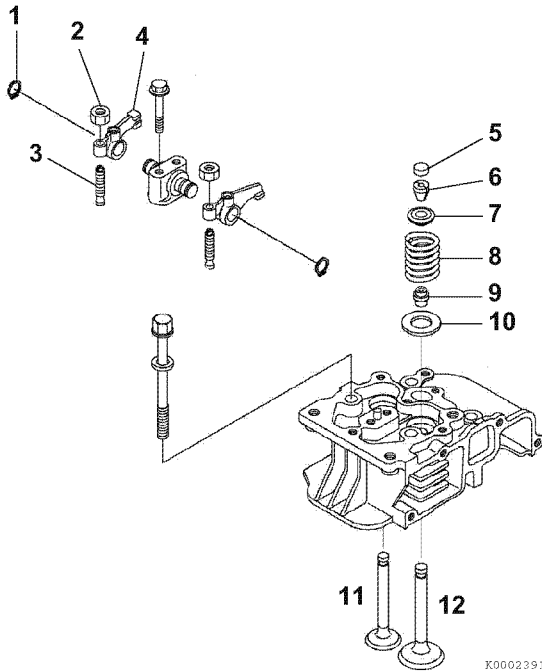

Figure 6-22
3. Place the valves (11, 12, **Figure 6-22**) in their proper locations in the cylinder head.
- Place the cylinder head on the workbench with the combustion side down. Install the washer (10, **Figure 6-22**), valve spring (8, **Figure 6-22**) and spring retainer (7, **Figure 6-22**).
- Insert the valve keepers (6, **Figure 6-22**) and slowly release the tension on the valve spring. Install the valve cap (5, **Figure 6-22**). Repeat the steps on the remaining valve.
- Install the rocker arms (4, **Figure 6-22**) on the rocker shaft. Secure with a snap ring (1, **Figure 6-22**) on each end. If removed, install the adjuster screws (3, **Figure 6-22**) and locknuts (2, **Figure 6-22**) in each rocker arm.